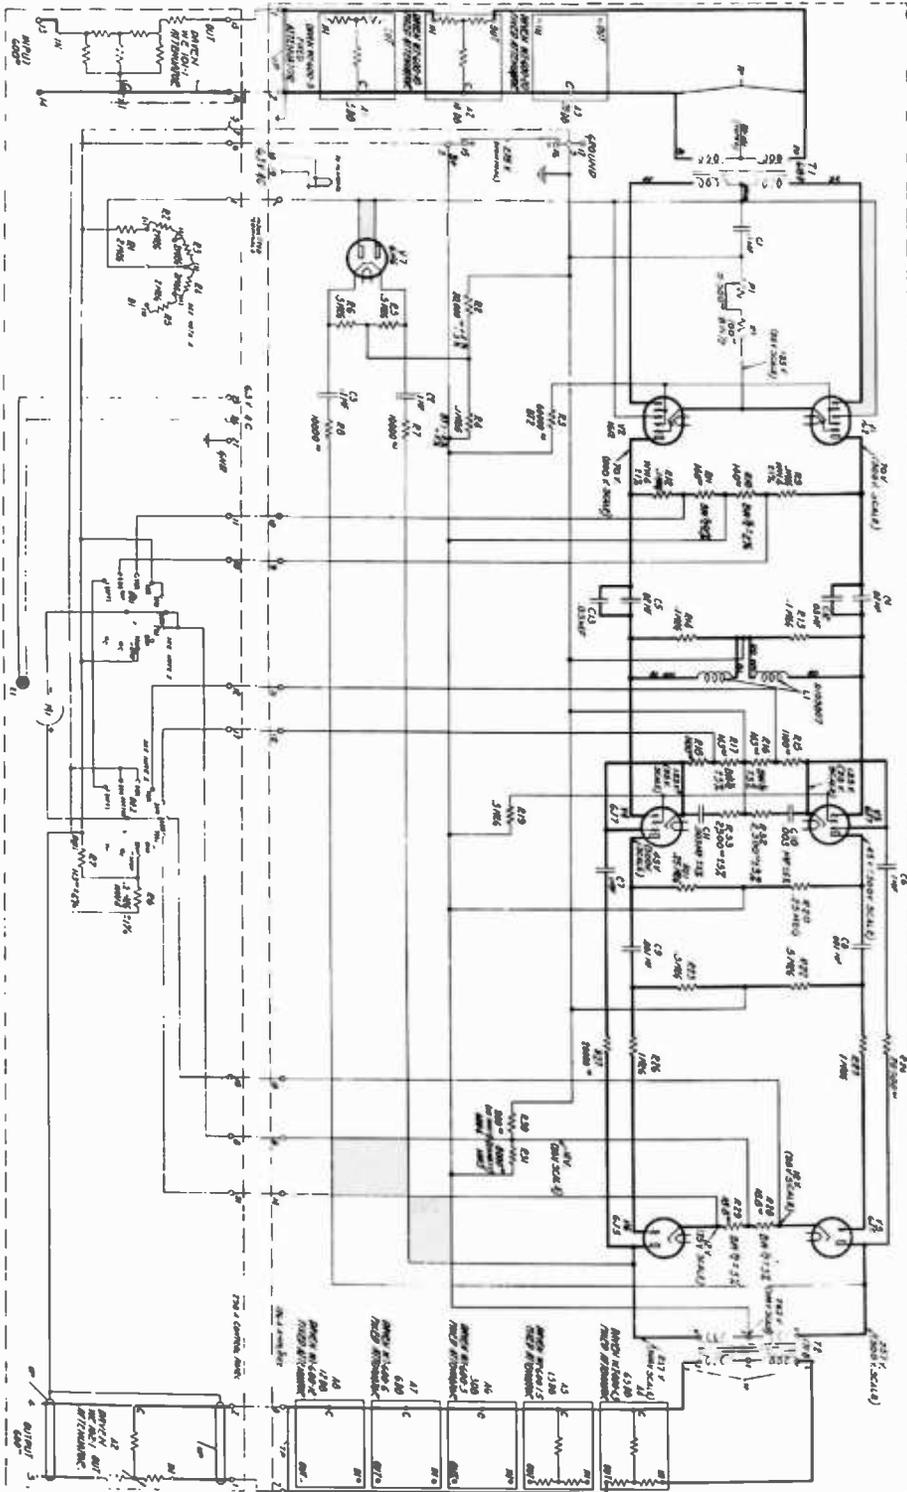

Figure 1 - Schematic - 126A Amplifier and 298A Control Panel
The single frequency level required at the input terminals of the 1126C Amplifier (terminals 13 and 14 on the 298A Control Panel) for compression to start when the adjustable attenuator (A1 on 298A Panel) is set at zero attenuation and all fixed input pads (A1, A2 or A3 on 126C Amplifier) out of circuit is approximately -25 dbm (See Figure 6). Three fixed input attenuators A1, A2 and A3 are included in the 126C Amplifier (See Figures 1 and 5). It may be necessary to connect one or more of these attenuators, depending on the level obtainable at the point of the system where the 1126C Amplifier is to be connected. The 10 db unit A2, is connected in the equipment during manufacture. The following table gives the fixed attenuators normally required for different single frequency input level ranges obtained at the input of the 1126C Amplifier. One or more of these fixed input attenuators should be connected, depending on the anticipated level in accordance with this table:
The single frequency output level at the output terminals of the output transformer of the 126C Amplifier available when compression starts is approximately $+25$ dbm (See Figure 6). The adjustable output attenuator A2 on the 298A Control Panel has a zero insertion loss; it has a range of adjustment of 3 db in steps of 0.1 db. Five fixed output attenuators A4, A5, A6, A7 and A8 are included in the 126C Amplifier (See Figures 1 and 5). It is recommended that the 6.5 db fixed attenuator or an external Impedance Stabilizing Pad of at least this value be used between the output transformer and the succeeding circuits as indicated on the schematic of the 126C Amplifier and 298A Control Panel (Figure 1), since the adjustable output attenuator A2 is not of itself a suitable termination for the output transformer.
1. Apply 1000 cycle tone across the insulated terminal of the 126C Amplifier or the 298A Control Panel, and ground (See Figure 1). Approximately 2 volts from an impedance of less than 500 ohms should be obtained from the oscillator for this adjustment. Potentiometer P2 on the 126C Amplifier should then be adjusted to give minimum reading of the output volume indicator meter.
A brief description of the functions of the more important elements in this rectifier will clarify the manner in which it operates. Referring to the schematic Figure 1, V1, C1, L1 and C2 comprise a conventional full-wave rectifier with filter delivering approximately 700 volts to the 300B tube, V2, which acts as a variable impedance in series with the positive output circuit reducing this voltage to the value determined by the setting of P1, normally 275 volts. During operation, a fraction of the output voltage is taken by the voltage divider, R1, R2.1, P1 and R2.2, amplified by the 348A tube, V4, and applied to the grid of V2 where it varies the plate impedance of this tube in accordance with small changes in output voltage, thus com-